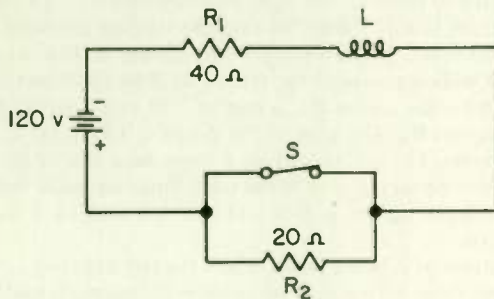

Fig. 39
2. (a) In Fig. 39 the switch S has been closed long enough for the current to reach a steady value. The current value is _____ amp. (b) The switch S in Fig. 39 is now suddenly opened. What is the voltage across L at the moment the switch is opened and what is its polarity? Remember that current through an inductance can't instantly jump from one value to another, so that the current at the very moment S is opened must be the same as it was while S was closed (although it starts at once to decrease).